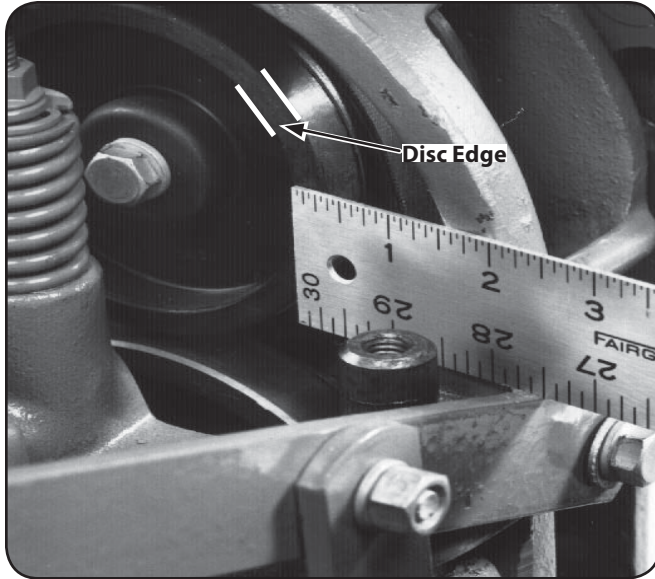

Figure 6-18
1. Measure the width of the outside edge of the disc as shown in Fig. 6-18. Replace the disc before the rubber edge wears to a thickness of $\frac{1}{8}$ " or less. Failure to do so could cause the steel underneath the rubber to damage the transmission pulley.